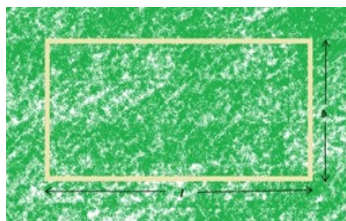
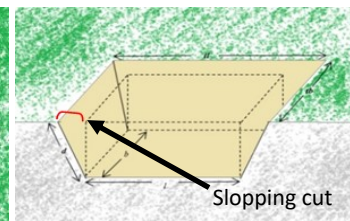

Figure 3
Figure 4
3. From the top edges of the cuboidal pond, measure distance ' g ' in all four sides as shown in the figure 3. Make slanting cuts from the top to the base on all four sides. Scrap off soils on all sides to obtain slope of 70° as shown in the figure 4. The gradient is made for slope stabilization and convenience to lay out plastic sheet.